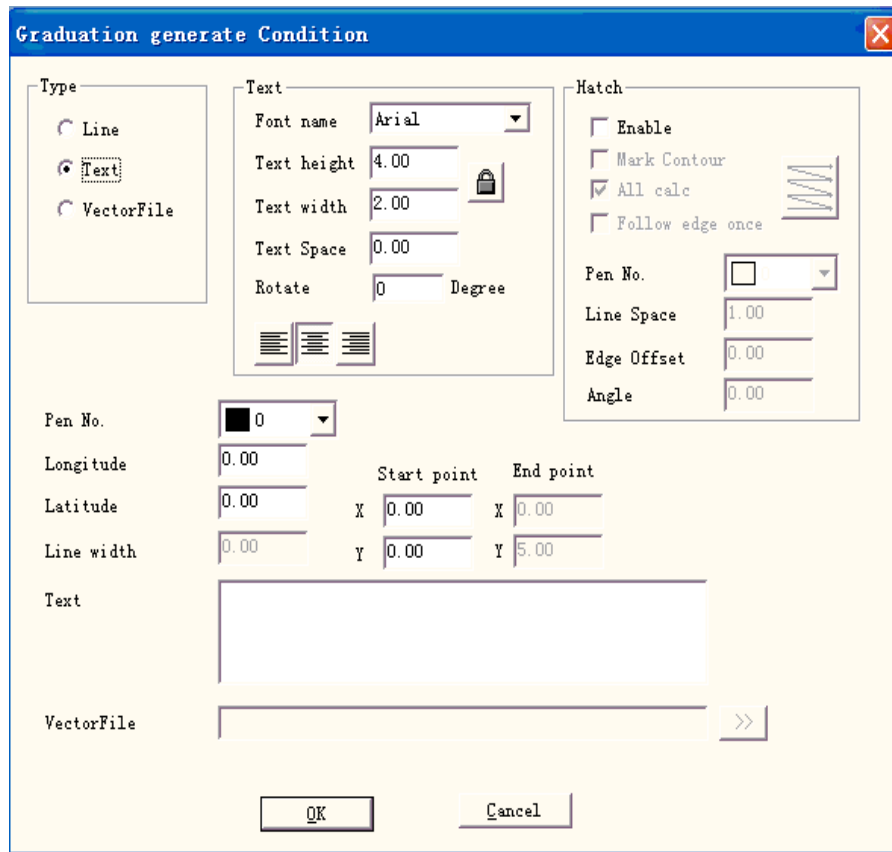

Figure 8-8
**Step 2:** Click menuitem **Rotary marking2** and the dialog box shown in Figure 8-8 popup.
Click “Add” presenting to edit the Globe, as shown in Figure8-8: